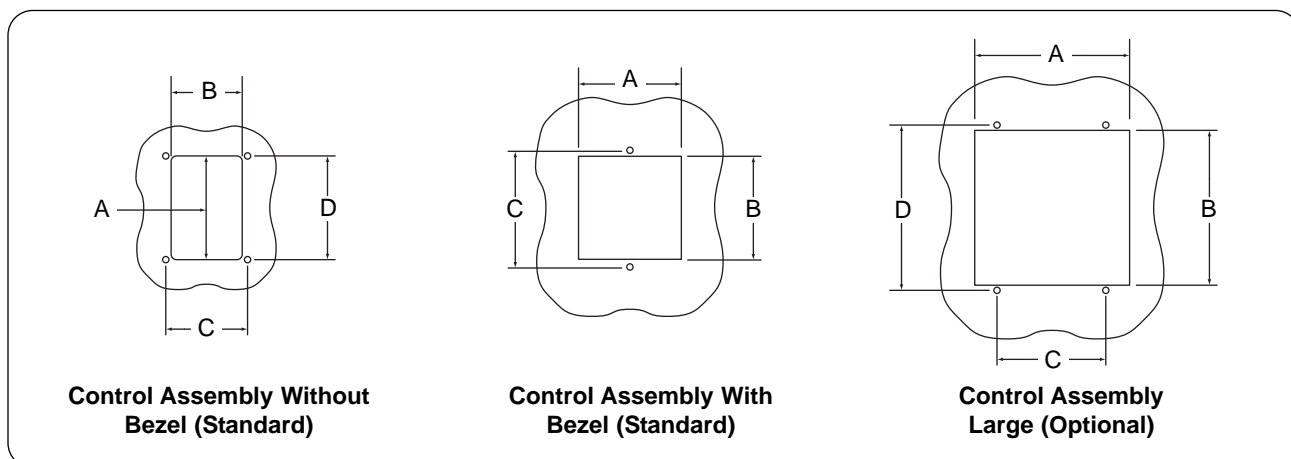

Figure 14. Control Panel Opening Dimensions
2. Cut appropriate opening for control panel. (See Figure 14 for size requirements.)